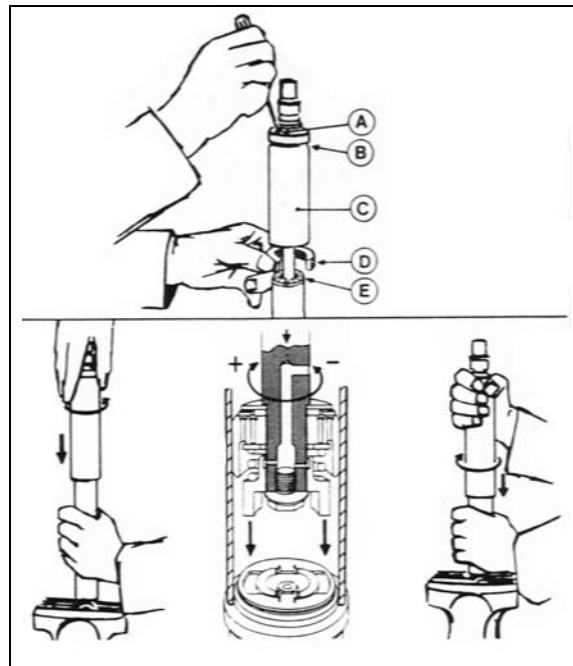

FIGURE 18: DAMPER
2. Fully close the damper while turning the dust cap or piston rod slowly CCW until it is felt that the cams of the adjusting nut engage in the recesses of the foot valve assembly (Fig. 18).
**Note:** In figure 18, if there is an indentation (B) in the dust cap (C) and the cover shows two holes (A), the damper is fitted with a bump rubber (D). If so, fully extend the damper and insert a round bar or screwdriver through the holes. Push the bump rubber down and remove. Remove the split plastic collar (E) (if fitted) from the piston rod.
**Note:** Where a bump rubber was installed, refit same inside the dust cap and by fully closing the damper, the rubber will seat again at top of the dust cap. Refit the split plastic collar E (Fig. 18)